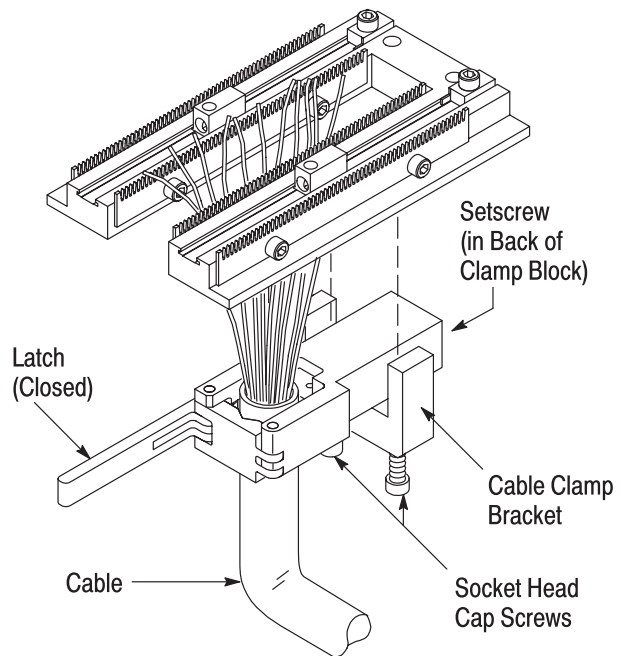

Figure 7
5. Open the cable clamp by opening the latch. Refer to Figure 7.
NOTE *If the clamp is too tight or too loose, adjust the clamp by moving the jaw using the setscrew located in the back of the clamp block. Refer to Figure 7.*
8. Position the cable clamp so that the cable bundle is centrally located on the termination cover. To position the clamp, loosen, but do not remove, the socket head cap screws in the cable clamp bracket and slide the clamp to the desired position. Refer to Figure 7.